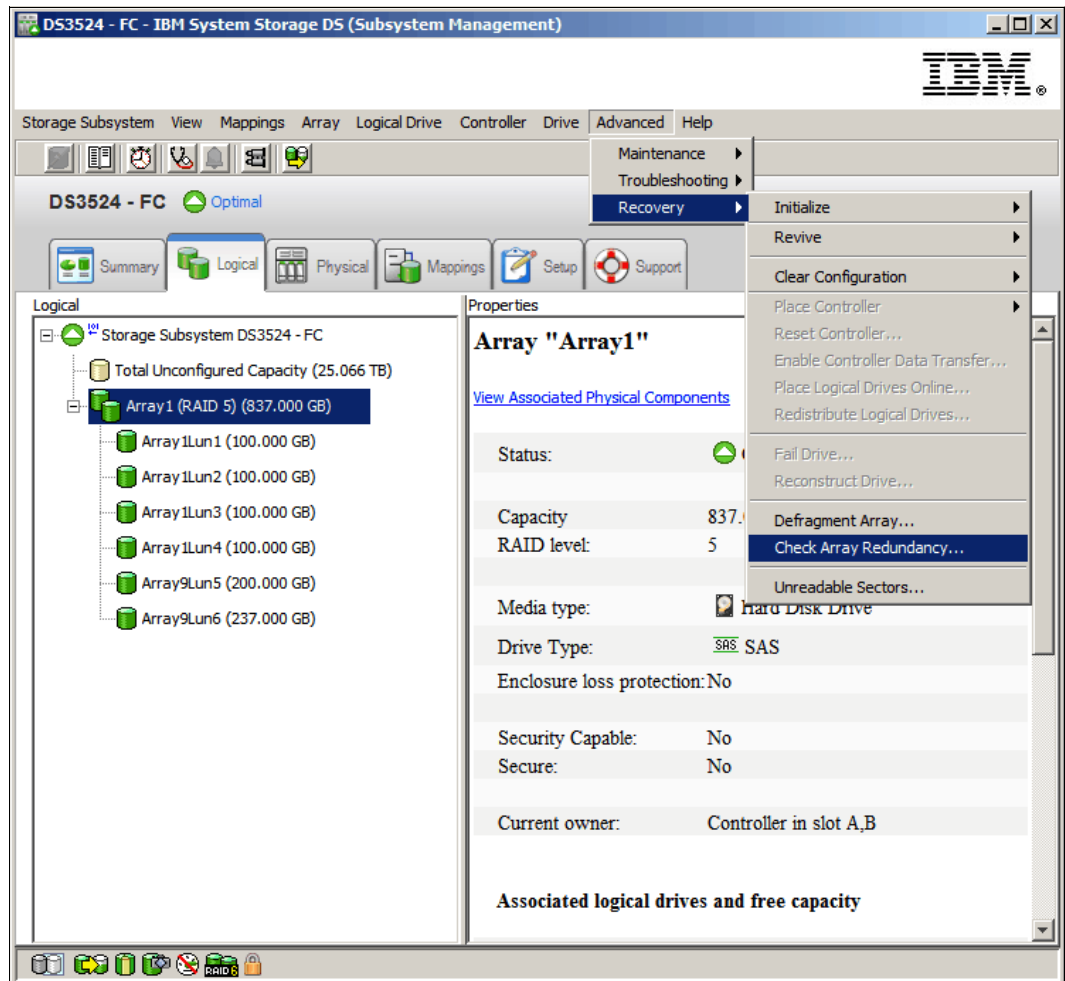

Figure 14-151 Check Array Redundancy
1. Select the array in the Logical tab of the DS Storage Manager (subsystem Management) window and then select the **Advanced** → **Recovery** → **Check Array Redundancy** menu command as shown in Figure 14-151 on page 433.